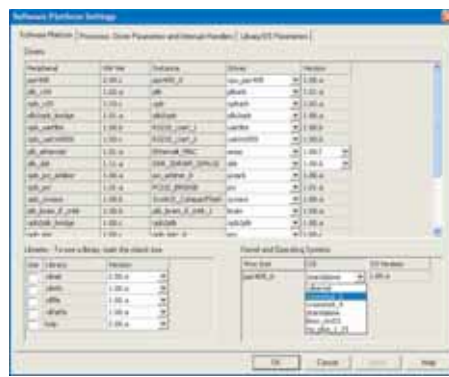

Figure 2 – Setting the embedded OS selection
1. Use the Software Settings dialog box (see Figure 2) to select the OS you plan to use for the system. Platform Studio users can select vxworks5\_4 or vxworks5\_5 as their target operating system.